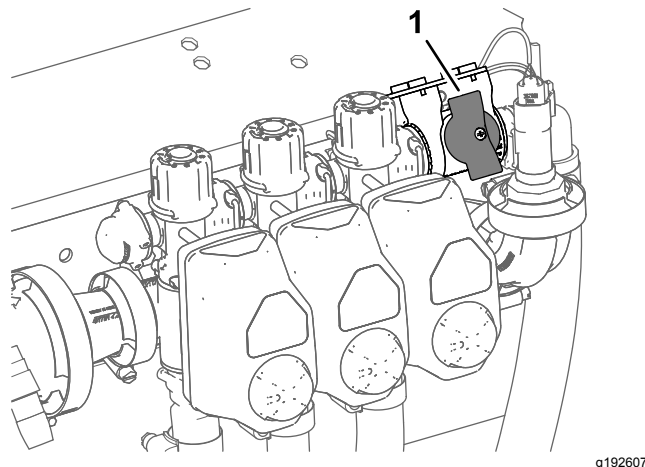

Figure 33
4. For machines operated in the application-rate mode, ensure that the knob for the section-bypass shutoff valve is in the closed position (Figure 33).
5. For machines operated in the application-rate mode, ensure that the section-bypass shutoff valve is closed (Figure 33).